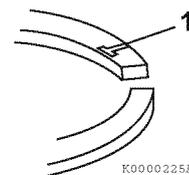

Figure 6-94
- Reinstall the top and second piston rings with the stamped “makers mark” (1, **Figure 6-94**) facing the top of the piston. The “makers mark” may vary in appearance but will always be located on the top surface of the piston ring adjacent to the piston ring gap. The oil ring and oil ring expander can be installed either side up.